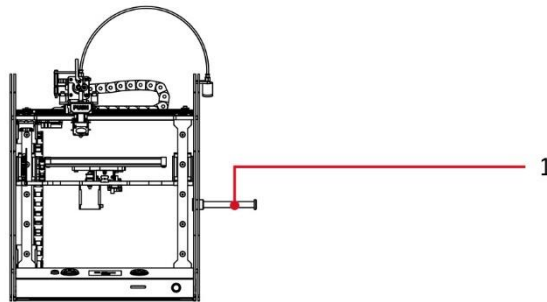

Fig. 32. Location of the spool holder.
1. Install in the spool holder on the right side of the device (turn counterclockwise) (fig. 32).